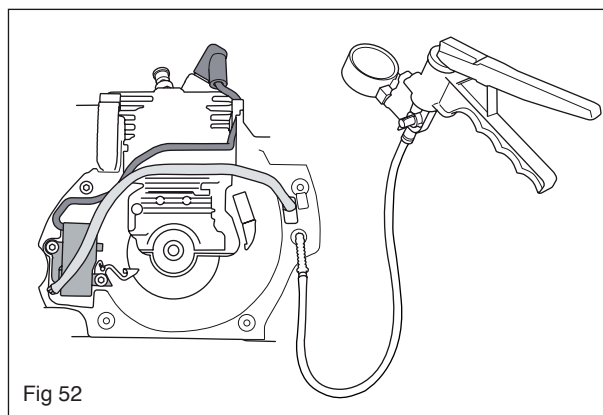

Fig 52
2. Connect the pump, ref. no. 531 03 06-23, to the tank valve. See figure 52.